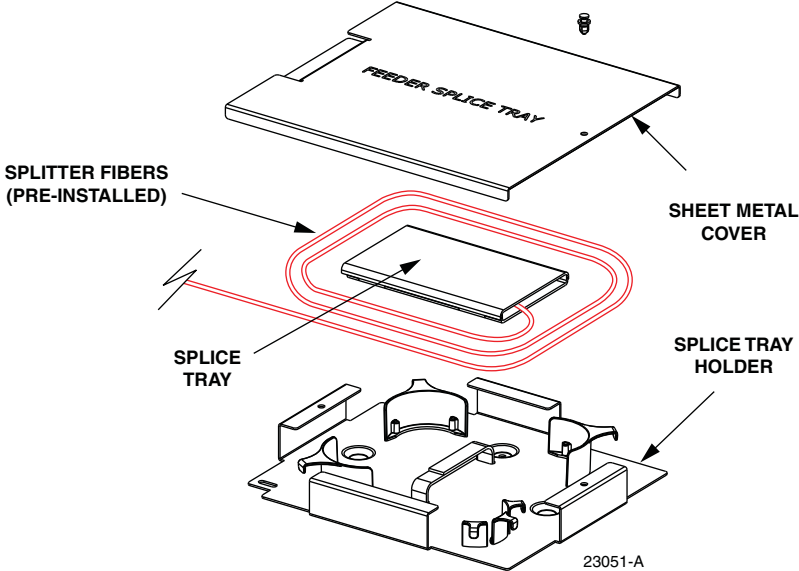

Figure 17. Feeder Splice Tray Assembly
2. Lift the sheet metal cover away from the splice tray holder as shown in Figure 17.
2. Lift the sheet metal cover (see Figure 17) away from the splice tray holder.